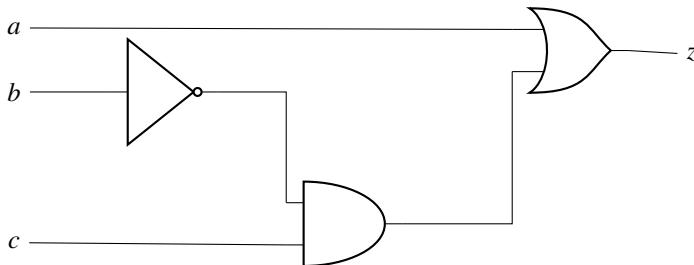

Fig. 3.29
48. Consider the Boolean function $Z(a, b, c)$. Which one of the following minterm lists represents the circuit given below in Fig. 3.29?